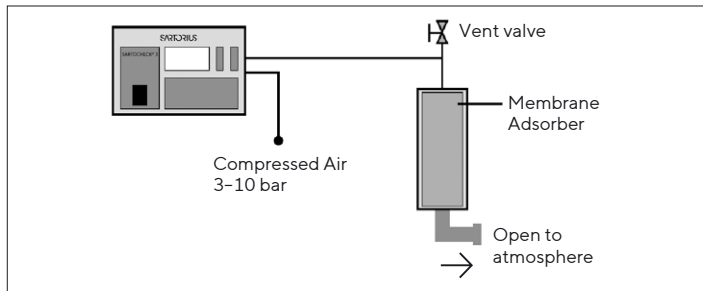

Fig. 4: Set up of diffusion test with Sartocheck®.
- ▶ Install adsorber as shown in Fig. 4.